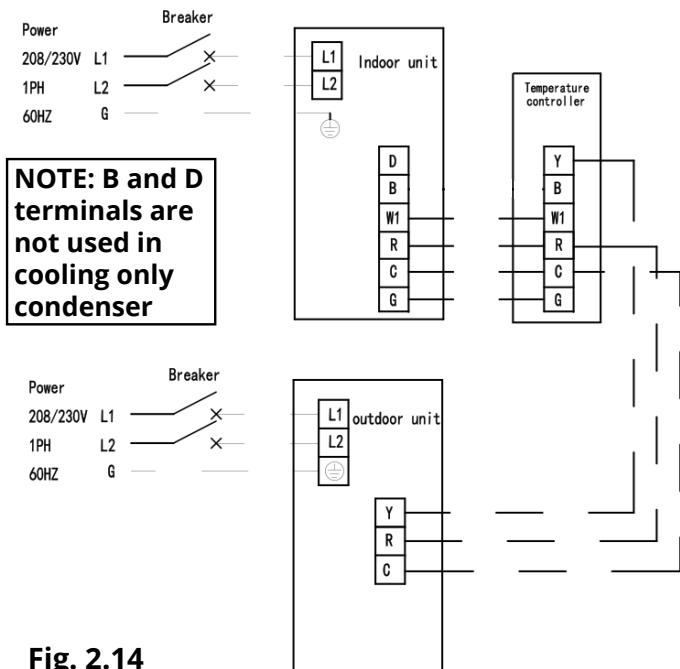

**Fig. 2.13**
5. Lead the connection wire and power cord through the insulation tube. Then secure the wires with wire clamps (as shown in **Fig. 2.13**).